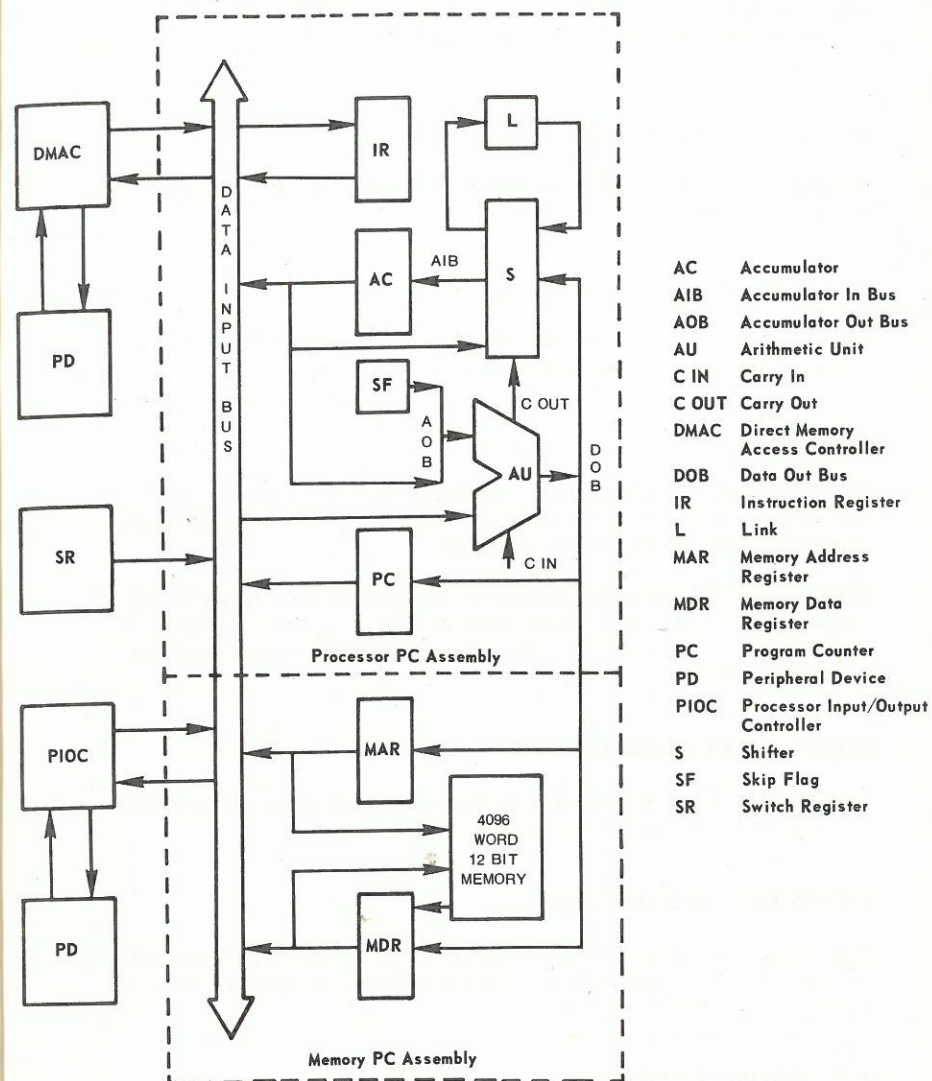

Figure 1-5
The FABRI-TEK MP12 features a single bus structure; the processor, memory, and input-output channels all share a common Data Input Bus (DIB). The Data Input Bus is the mechanism whereby address information and data are transferred between the switch register (SR) and the processor, between the processor and the memory, between the memory and the input-output interface, and between the processor and the input-output interface. The system block diagram, Figure 1-5, illustrates the single bus organization of the FABRI-TEK MP12.